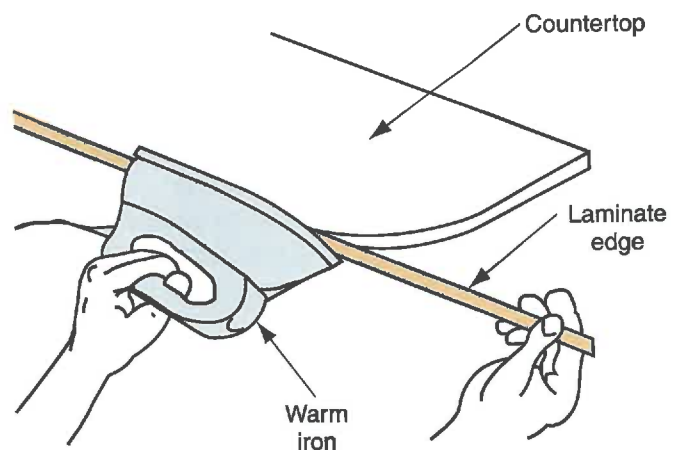

Figure 36-18. Heating a postforming grade laminate makes it flexible. Pull the laminate around the curve and press it against the substrate.
5. In one hand, hold a warm (300°F; 150°C) iron to the laminate. (A heat gun can also be used.) With the other hand, pull the laminate around the curve. See **Figure 36-18**.